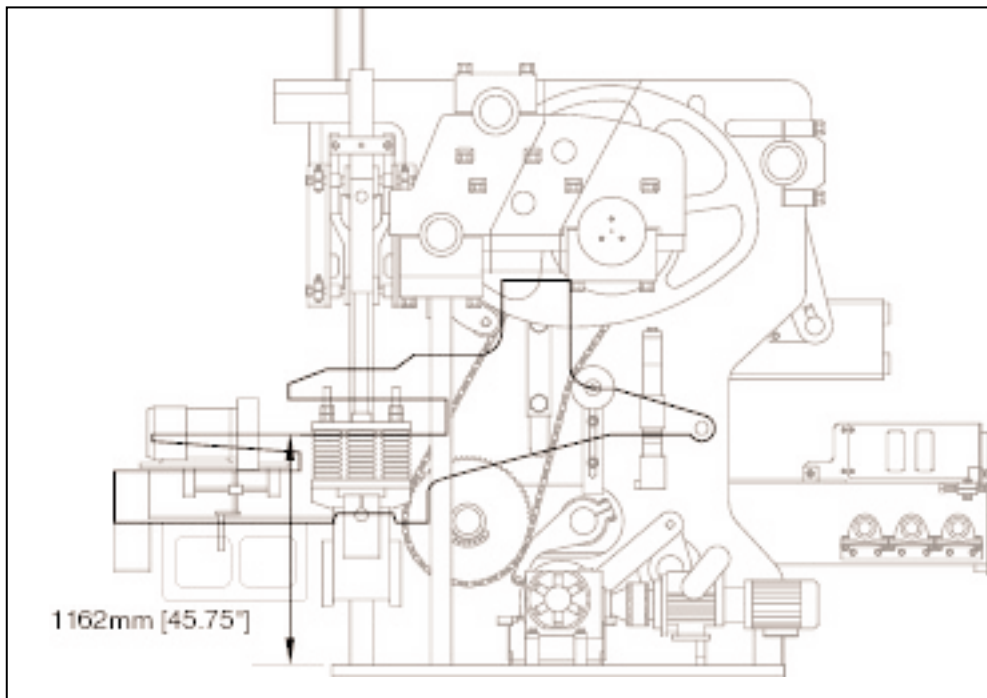

Figure 18.23 INNER FRAME ADJUSTMENT.
18.2.3 Adjust the inner frame so that the mold throat is **1162mm [45.75"]** above the top on the base plate (figure 18.23). **111mm [4.375"]** of spacers are required. To do so, follow these procedures: